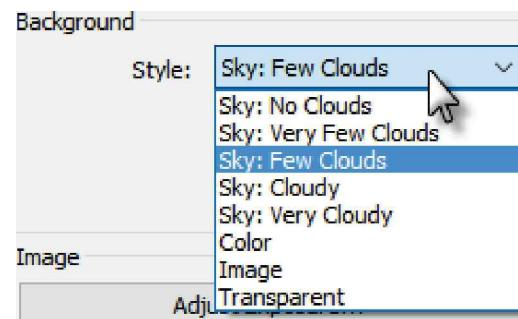

FIGURE 14-2.13 Background options
29. Click the down-arrow next to *Style* in the *Background* area (Figure 14-2.13).